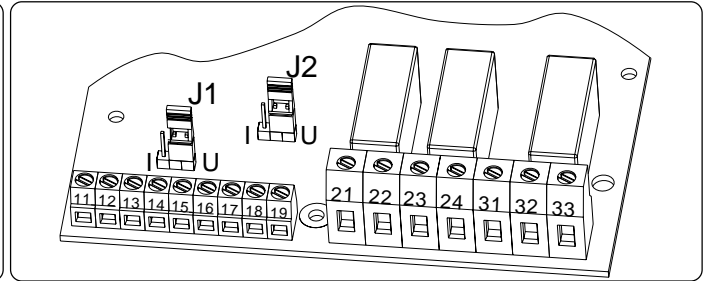

Fig. 28 Selecting Current or Voltage Output.
2. Set Jumper J2 on the PCB board to voltage (U) or current (I) signal position. Factory setting is voltage (U). See Fig. 28.